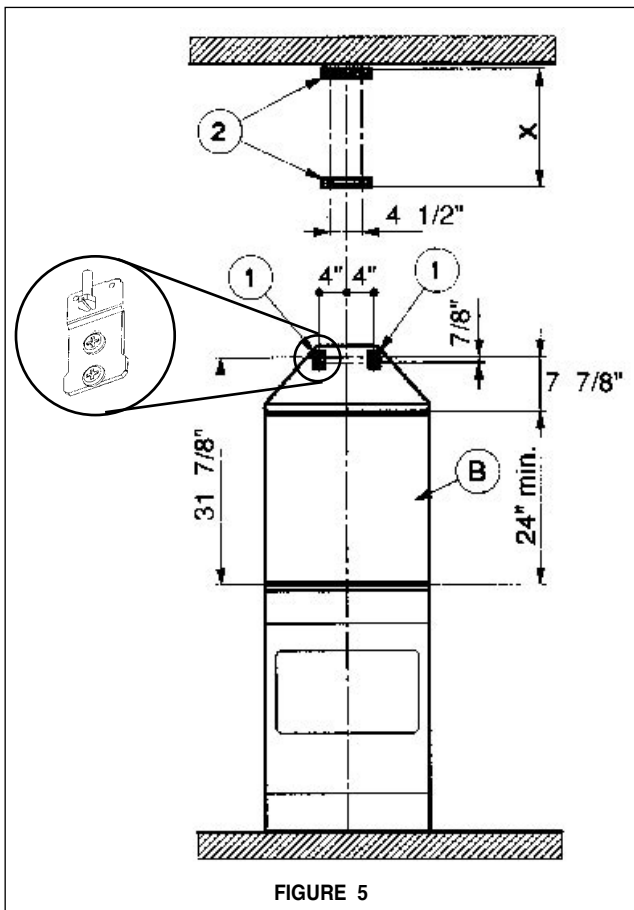

FIGURE 5
3. The canopy attaches to the wall by two mounting brackets (Item 1 in FIGURE 5). The canopy of the rangehood hangs on the two brackets which must be mounted with the flanges on the top of the bracket and pointing away from the wall. Before installing the brackets, the adjustment screws must be installed into the bottom of the bracket. These two screws are provided in the hardware package and have hexagon heads with a slot for a flat blade screwdriver. The dimensions illustrate mounting the canopy 24" above the cooking surface.
4. The chimney mounts by two brackets (Item 2 in FIGURE 5). Note the position of the brackets. The top bracket should be installed about 1/8" away from the ceiling. The bottom bracket must be installed at the bottom point of the upper chimney sleeve.